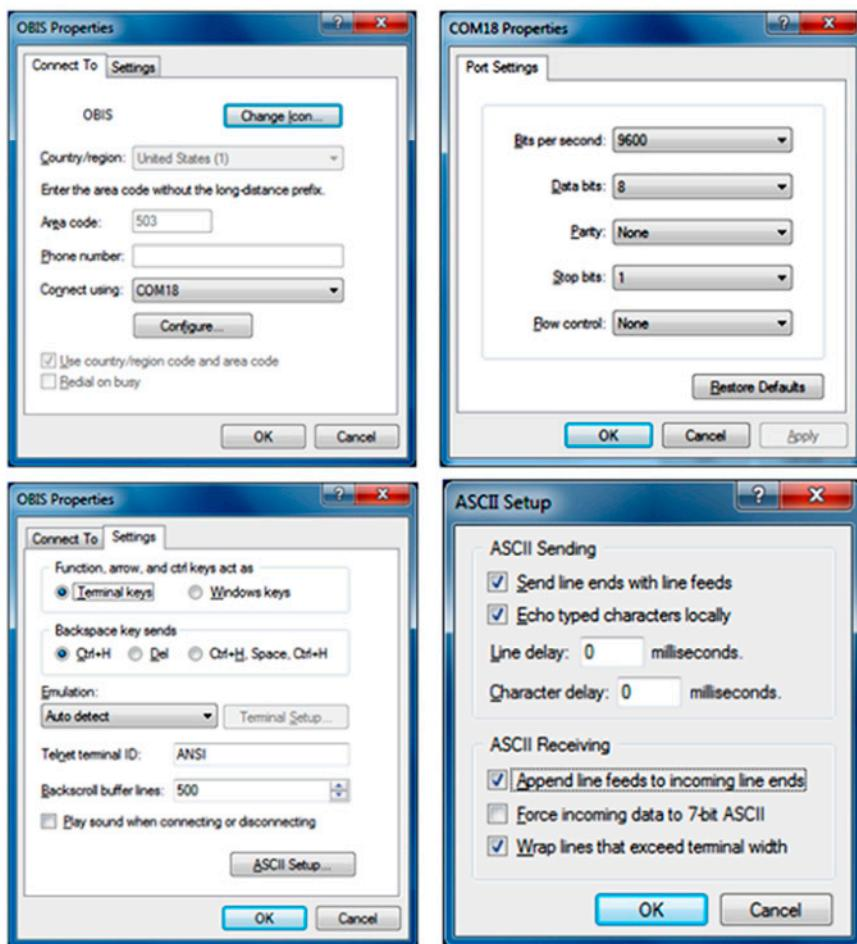

Figure 7-6. Recommended Terminal Menu Settings
4. Select the COM port that is assigned to the OBIS laser (see Step 1) and follow the recommended terminal menu settings shown in the example in Figure 7-6.